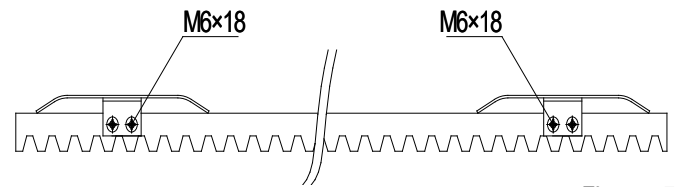

Figure 5
- 2) Install the limit block, as shown in figure 5 and figure 6. The spring limit switch and blocks are used to control the position of the door.